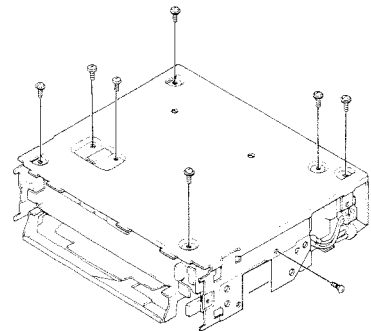

Fig. 12
- **Chassis Removal (Fig. 12)**